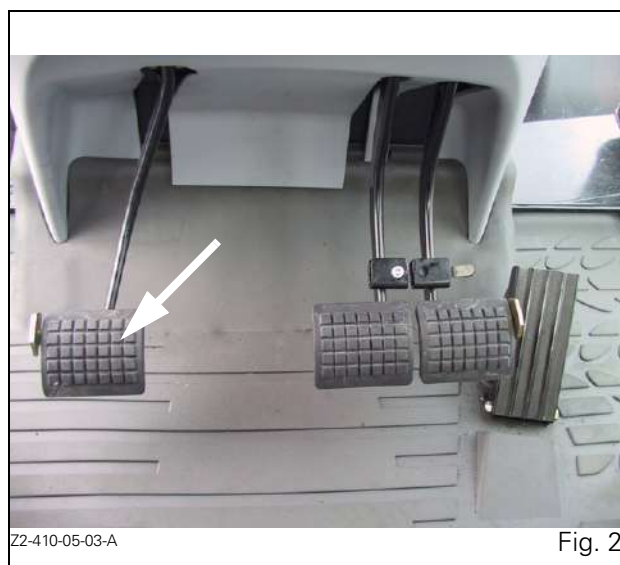

Fig. 2
2. Fully press down the clutch pedal (Fig. 2).